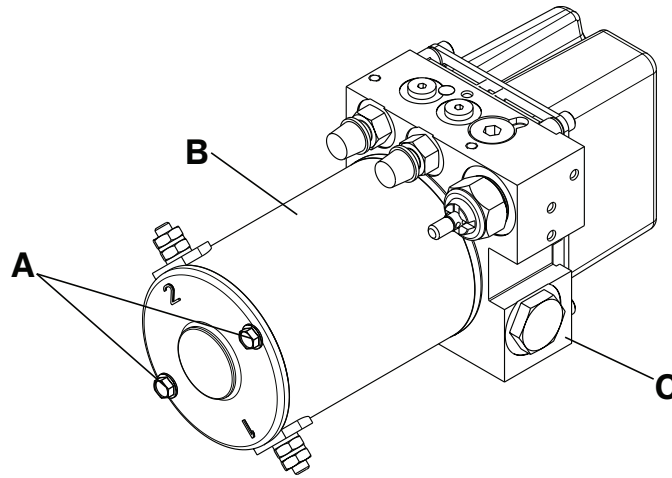

Figure 41 – Motor replacement parts
4. Using a 9/32" socket and 1/4" drive ratchet, remove the two bolts (A) that secure the motor (B) to the hydraulic manifold assembly (C) (Figure 41). Save the bolts.